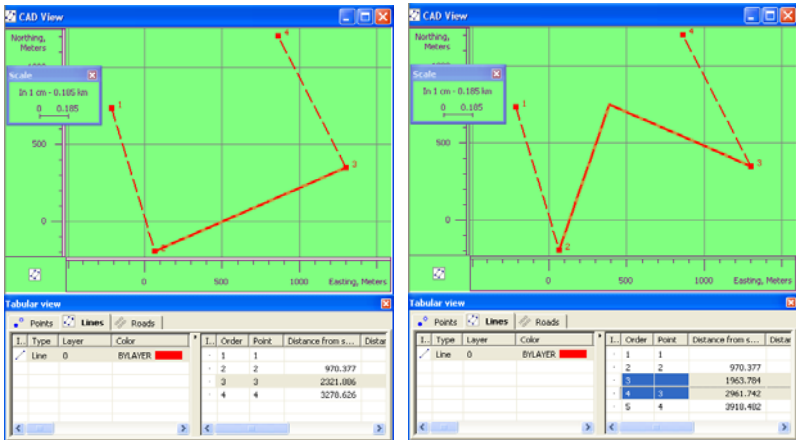

Figure 5-46. Inserting a New Point to the Selected Line
4. Click at the desired place in the CAD View. A new point will be created, the selected line will be deleted, and three points (the start and end point of selected line and the new point) will create two new segments (Figure 5-46 on page 5-37).